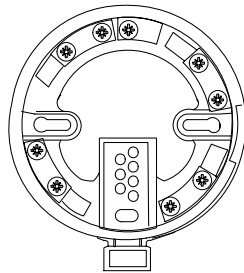
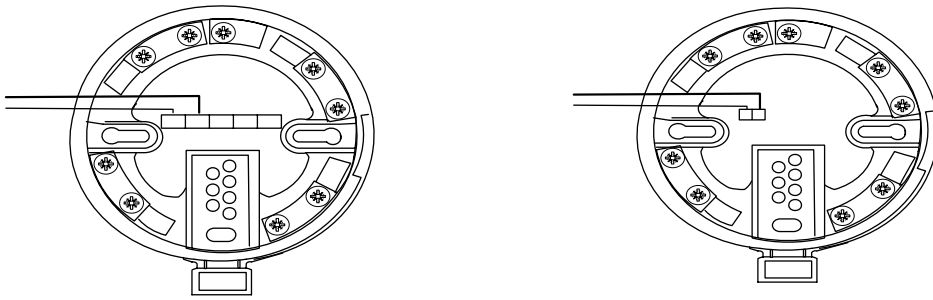

Fig.2.8 XP95 Mounting Base with XPERT card
Fig.2-9 Relay and Sounder bases
There are three types of bases that may be used with the optical, ionization, and thermal sensors: Mounting Base, Sounder Base and the Relay Base. These bases views are shown on Fig.2-8 and Fig.2-9. The isolator base is only used with the isolator module.
**NOTE:** Fig.2.8 55000-250 Mounting Base with XPERT card